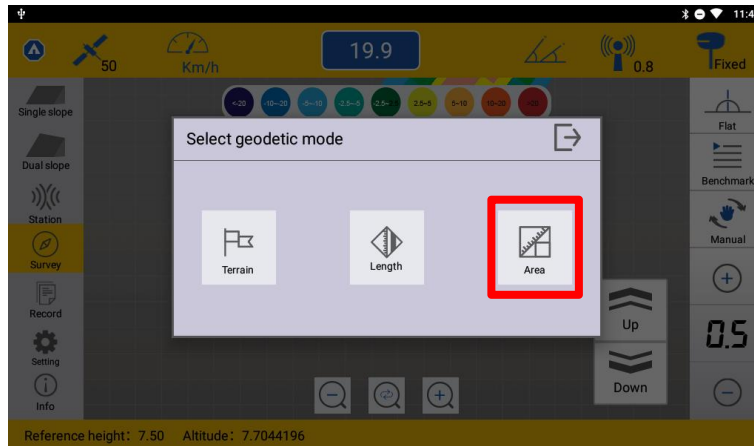

Figure 29
Step1. Click the Survey button and select Area. (Figure 29)